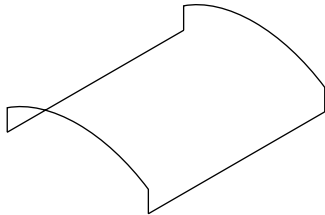

Fig. 18.14 Sixth example – **Surfaces model** – adding lines joining the outlines
6. With the **Line** tool, draw lines between the ends of the two plines using the **endpoint** osnap (Fig. 18.14). Note that if polylines are drawn they will not be accurate at this stage.